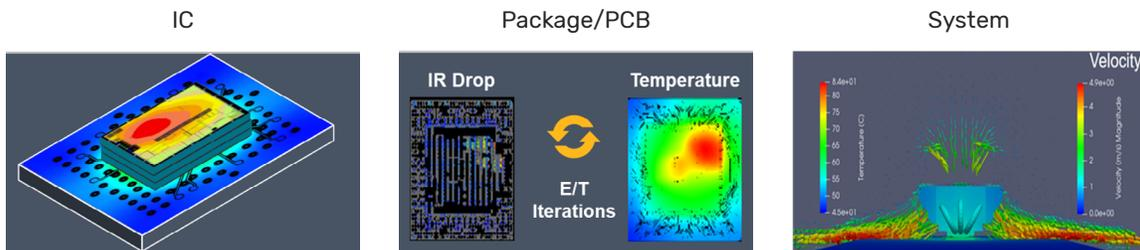

Figure 1: IC, package/board, and system design challenges
As electronics get smaller and faster, the environment for thermal issues is becoming more and more challenging. These problems are widespread and can appear in the chip, the board, the package, and the entire system. Figure 1 shows some of the thermal challenges in today's modern electronics.
3D-ICs integrate many dies (Figure 1, left) that are densely packed, which leads to heat generation resulting in a rise in temperature that causes performance issues. Consequently, it is important to accurately place the temperature sensor in the hot spot to quickly capture and mitigate the temperature rise.
In packages and PCBs (Figure 1, center), the thermal challenges are due to the Joule heating impact, the infrared (IR) drop, and performance. In 3D-ICs, these issues are exacerbated because of the multiple dies. In systems (Figure 1, right), it is important to have a vision of thermal performance to optimize the thermal cooling strategy.